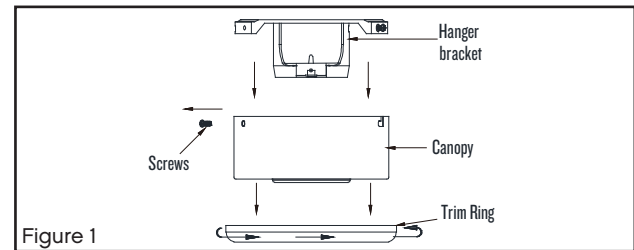

Figure 1
- 1 Locate ceiling joist where fan is to be mounted, being sure location agrees with the requirements in the minimum clearance section of this guide. Wood joists must be sound and of adequate size to support 35 pounds (See page 2, items 3 and 4).
- 3 Remove canopy from hanger bracket. Remove twist-lock trim ring by rotating counter-clockwise. Remove canopy screw that does not have key slot in canopy. Loosen screw with key slot and remove canopy. (Fig. 1)